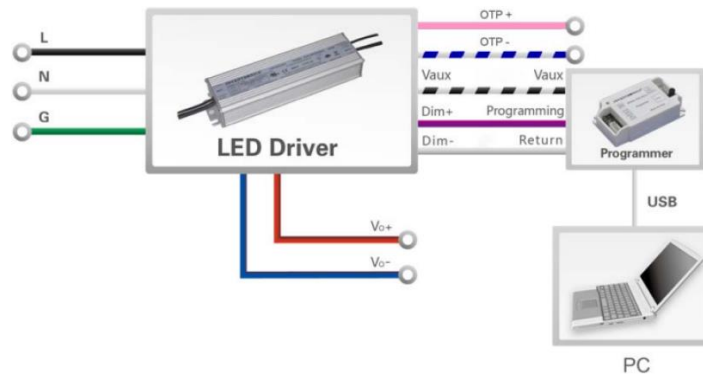
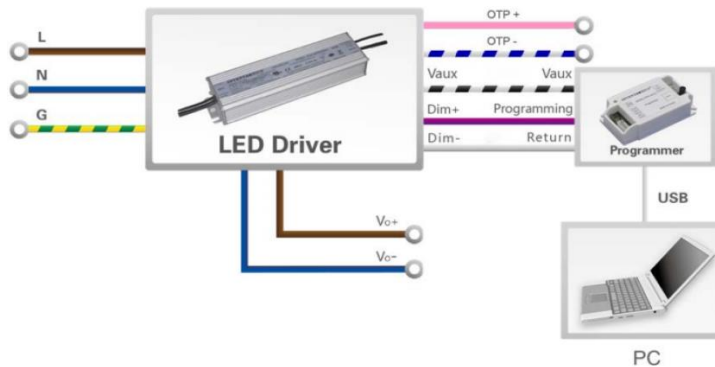

Figure 12: Programming Connections for Driver Ending in -DTA
Figure 13: Programming Connections for Driver Ending in -DVA
*Note that AC power is not required for programming. As shown in Figure 12 and Figure 13, wires should be left floating if not connected to the programmer.